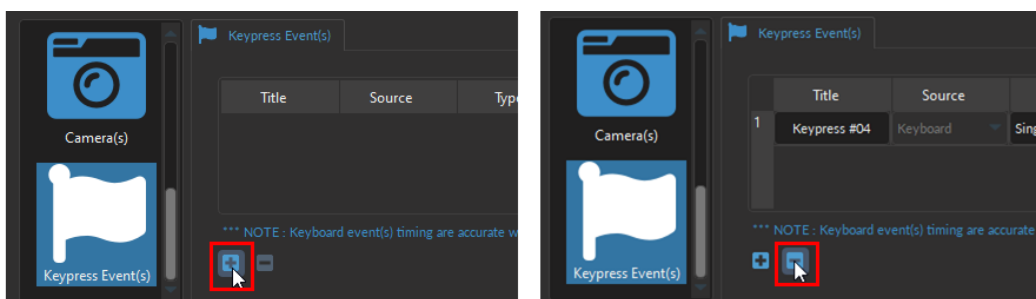

Figure 6.40: Adding and Removing Keypress Events
To add a new **KeyPress Event**, select the + sign at the bottom of the window (Fig. 6.40, left). To remove a Keypress, use the - button (Fig. 6.40, right).
- **NOTE:** Selecting the + button (without clicking the *Add* button or the *Close* of the *Channel Configuration* window) will **automatically** add the Keypress Event channel at the **bottom** of the Acquisition View window, below any pre-existing channels (Fig.6.40).